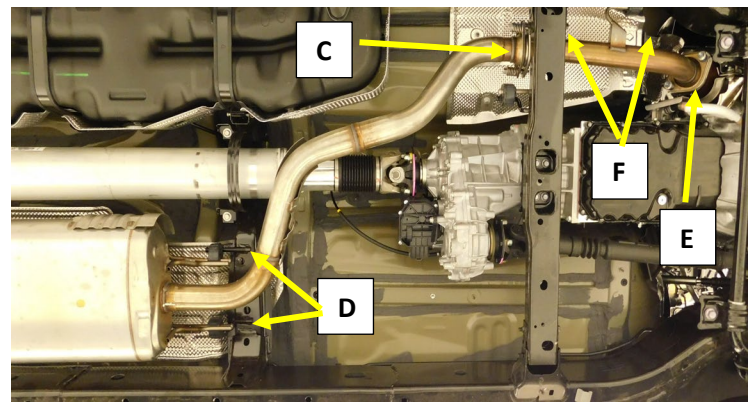

Figure.2
5. Remove the spring bolts at the flanged connection between the down pipe and the muffler inlet pipe(C). **Fig.2**
6. Remove the rubber isolators (D) from the muffler hanger rods then remove the muffler assembly.
7. Remove the spring bolts from the flanged connection between the catalytic converter and the down pipe (E), remove the rubber isolators (F) and remove the down pipe. **Fig.2**